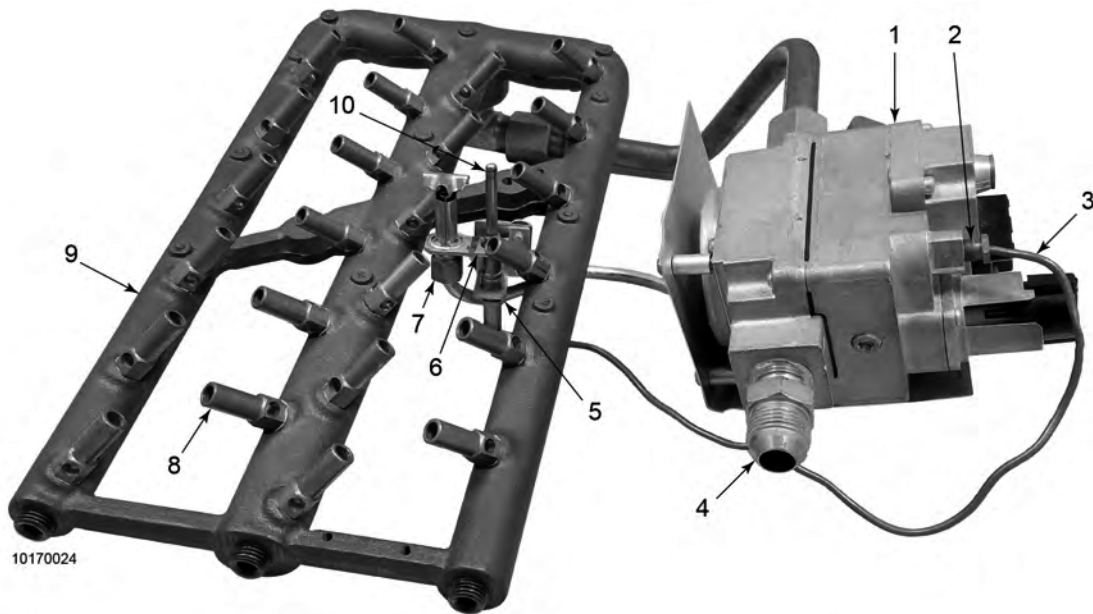

Figure 2-7 Gas Burner Assembly
The gas model fryer has a gas burner assembly consisting of a burner casting (9), orifices (8), thermocouple (3), pilot holder (6), and main gas control valve (1), see Figure 2-7 *Gas Burner Assembly*, page 28.
- 3) Remove wires from the gas control valve (1), see Figure 2-7 *Gas Burner Assembly*, page 28.
- Replace the thermocouple (3) as required, per Figure 2-7 *Gas Burner Assembly*, page 28.
- Repair or replace or replace gas control valve (1) as required, see Figure 2-7 *Gas Burner Assembly*, page 28.
- Replace orifices (8) as required, see Figure 2-7 *Gas Burner Assembly*, page 28.
- 1) Using a 3/8" wrench, remove the nut (2) securing the thermocouple in the gas control valve, see Figure 2-7 *Gas Burner Assembly*, page 28.
- 2) Remove the nut (7) securing the thermocouple in the pilot holder, see Figure 2-7 *Gas Burner Assembly*, page 28.